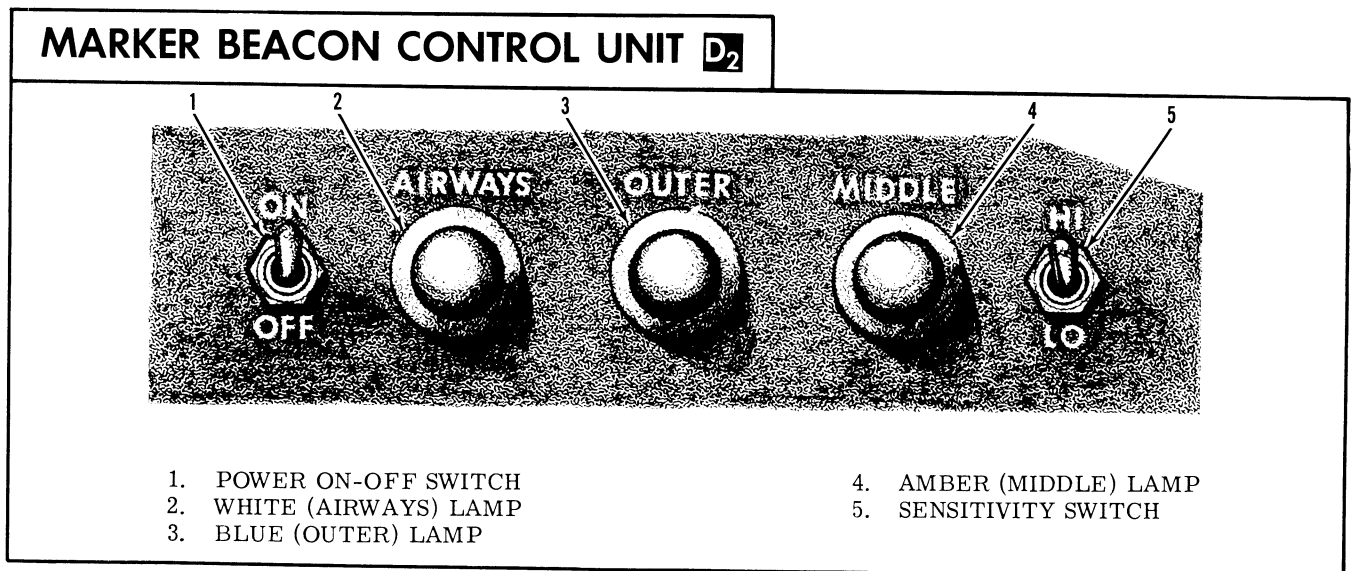

Figure 4-18.
instrument panel between the pilot and copilot (Figure 4-18). The control unit includes a primary power switch (ON-OFF), a white lamp (AIRWAYS), a blue lamp (OUTER), an amber lamp (MIDDLE), and a sensitivity switch (HI-LO).
The two-position power switch (1, Figure 4-18) labeled ON-OFF controls power to the marker beacon receiver. Place the switch to ON to apply power and to OFF to remove power from the receiver.
Separate visual indications for identification of three modulating marker beacon frequencies are provided by three lamps. A white lamp (2, Figure 4-18) labeled AIRWAYS is energized when receiving 3000 cps from Z markers and fan markers. A blue lamp (3, Figure 4-18) labeled OUTER is energized when receiving 400 cps from ILS outer markers. An amber lamp (4, Figure 4-18) labeled MIDDLE is energized when receiving 1300 cps from ILS middle markers.
A sensitivity switch (5, Figure 4-18) labeled HI-LO selects the proper sensitivity to receive marker beacon signals. Set the switch to HI position for high-altitude airway flying of fan and Z markers. Set the switch to LO position for ILS approaches.
4. To remove power from the equipment, set the power switch (1, Figure 4-18) to OFF.